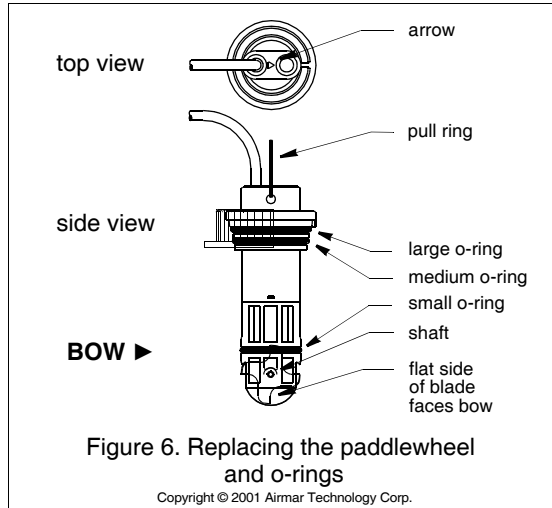

Figure 6. Replacing the paddlewheel and o-rings
1. Using the new paddlewheel shaft, push the old shaft out about 6mm (1/4"). With pliers, remove the old shaft (see Figure 6).